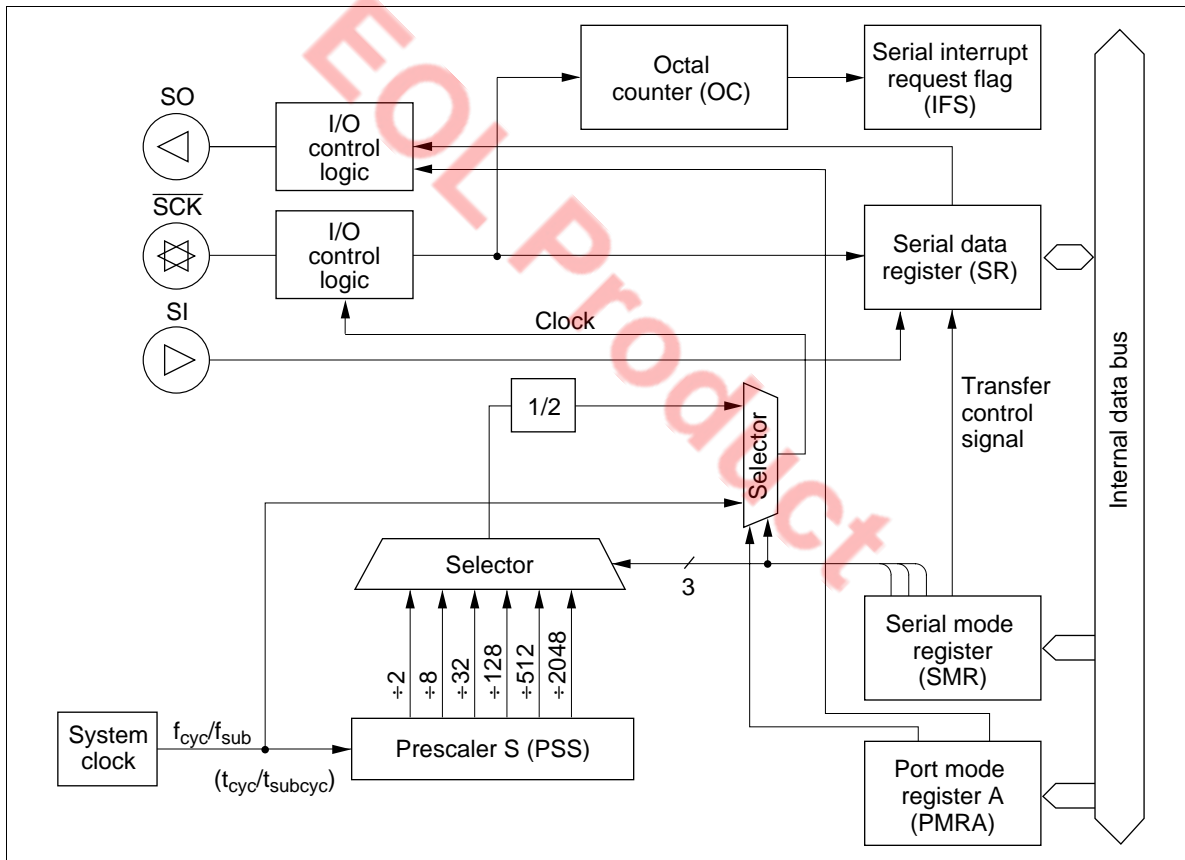

Figure 30 Serial Interface Block Diagram
The serial interface consists of a serial data register (SR), serial mode register (SMR), port mode register A (PMRA), octal counter, and multiplexers (see figure 30). The  $R0_0/\overline{SCK}$  pin and the transmit clock are controlled by writing to the SMR. The transmit clock shifts the contents of the SR, which can be read and written to by software.